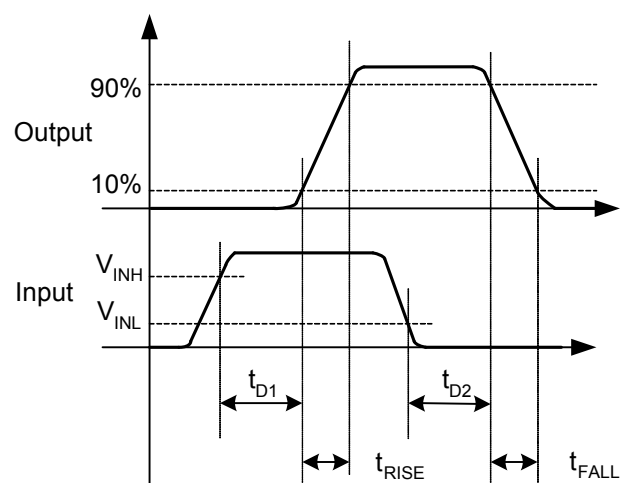
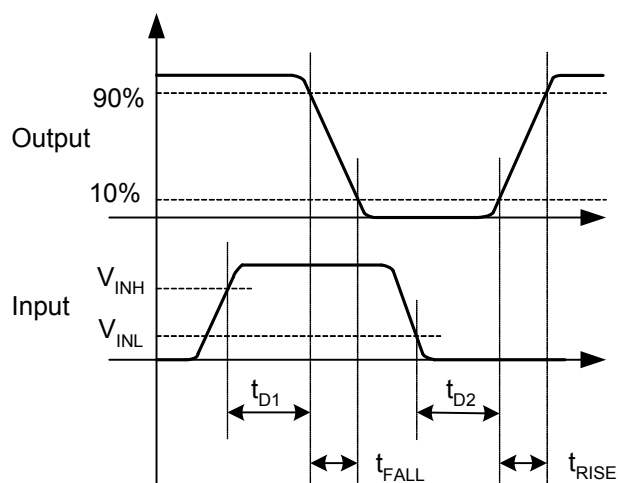

Figure 9. Non-Inverting (EN HIGH or Floating)
Figure 10. Inverting (EN HIGH or Floating)
13. See Timing Diagrams of Figure 9 and Figure 10.